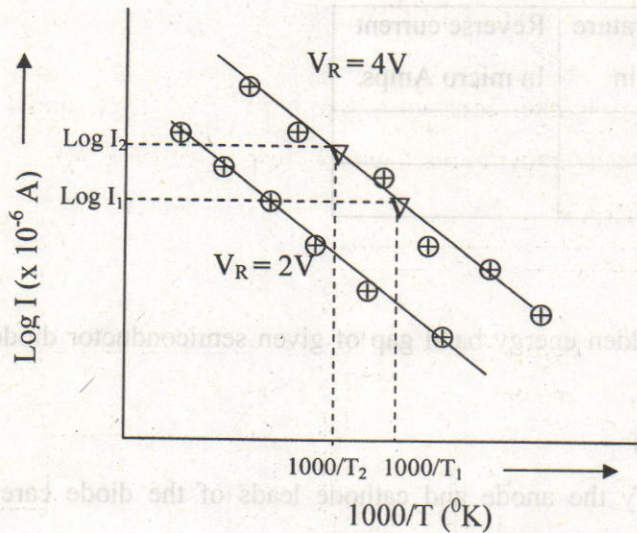

Fig.12.2
11. Mark the observed points and join them by straight lines as shown in Fig.12.2.